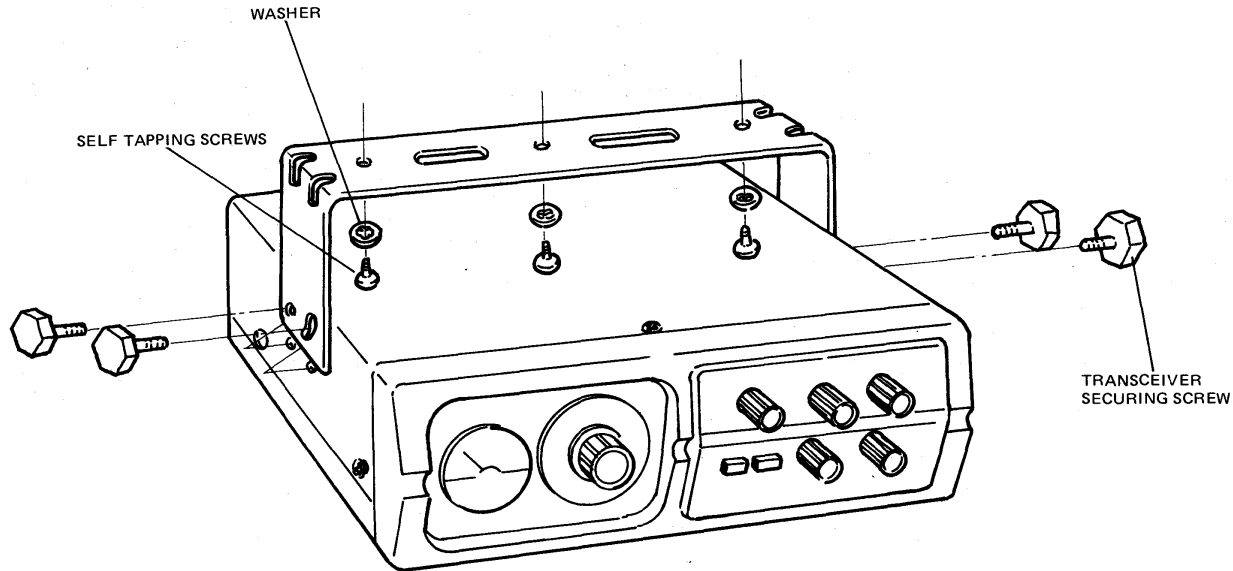

Figure 3. Mounting
1. The transceiver will be mounted as illustrated in Figure 3. First drill three or four holes (diameter about 5/32"; 3.6 mm) in the location to be mounted.